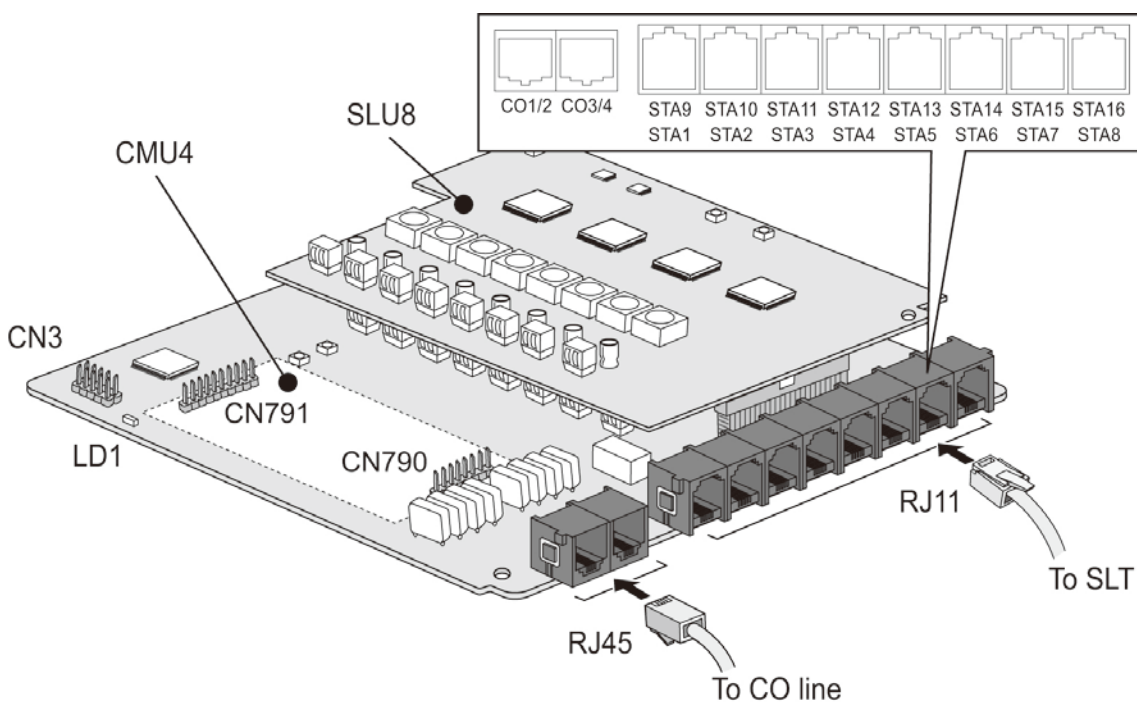

Figure 4.7.3-1 CS416
The CS416 board has four (4) CO line and 16 SLT interface ports. Note that eight of the 16 SLT interface ports are provided from the SLU8 daughter board that is factory installed. The board can be installed on CN1 connector of the KSU or EKSU for expansion. Also, MG-CMU4 daughter board for call metering can be installed on CN790, CN791 as shown in Figure 4.7.3-1 below for call metering.